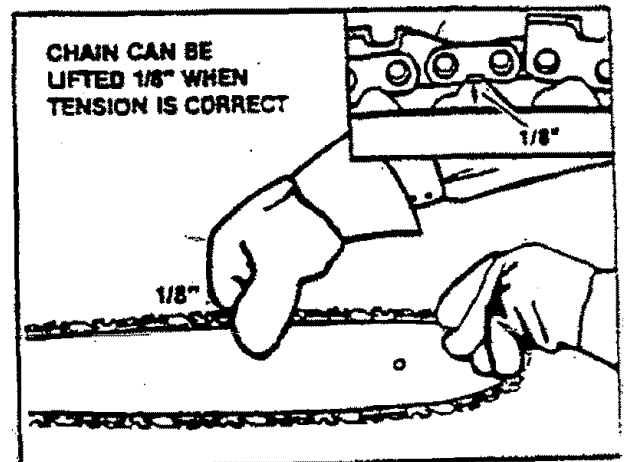

Figure 11
2. Check the tension by lifting the chain from the Guide Bar at the center of the bar. Figure 11.
6. Recheck chain tension. See Figure 11.